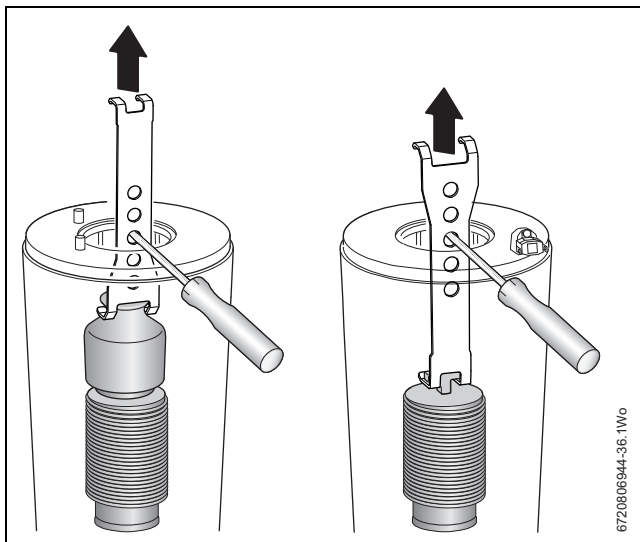

Fig. 76 Baffle removal
Refer to figure 76.
**i** If the lower baffle is stuck, it may be necessary to use the “baffle removal tool” from the heat exchanger cleaning kit -7 733 600 091, as shown in figure 76.